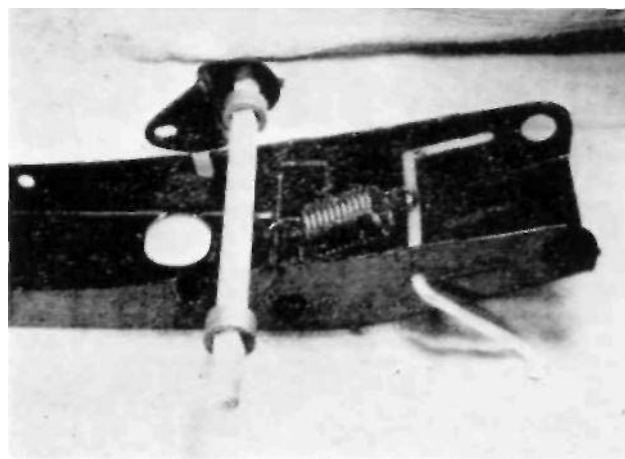

FIG. 71
**The stand spring** (Fig. 71). Usually trouble free. The spring is anchored between the operating rod and a spacer. The spacer is secured by a recess in the channel. Spring the channel apart, the spacer will fall out.